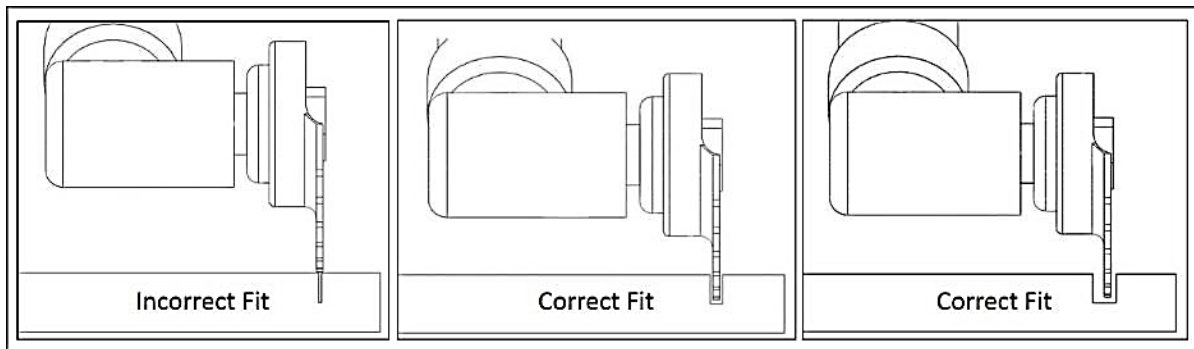

Figure 2. Determining Proper GFR-Disc/Blade Fit
- 3.1.2. Ensure the selected GFR-Disc/Blade thickness is narrower than the gap from which the filler is being removed. See **Figure 2**.